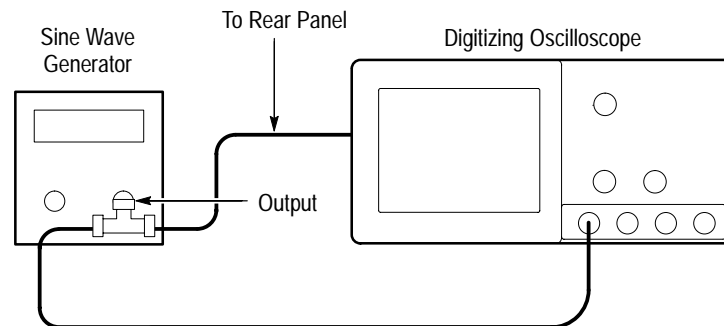

Figure 1–15: Initial Test Hookup
- Connect a BNC T connector to the output of the sine wave generator (see Figure 1–15).